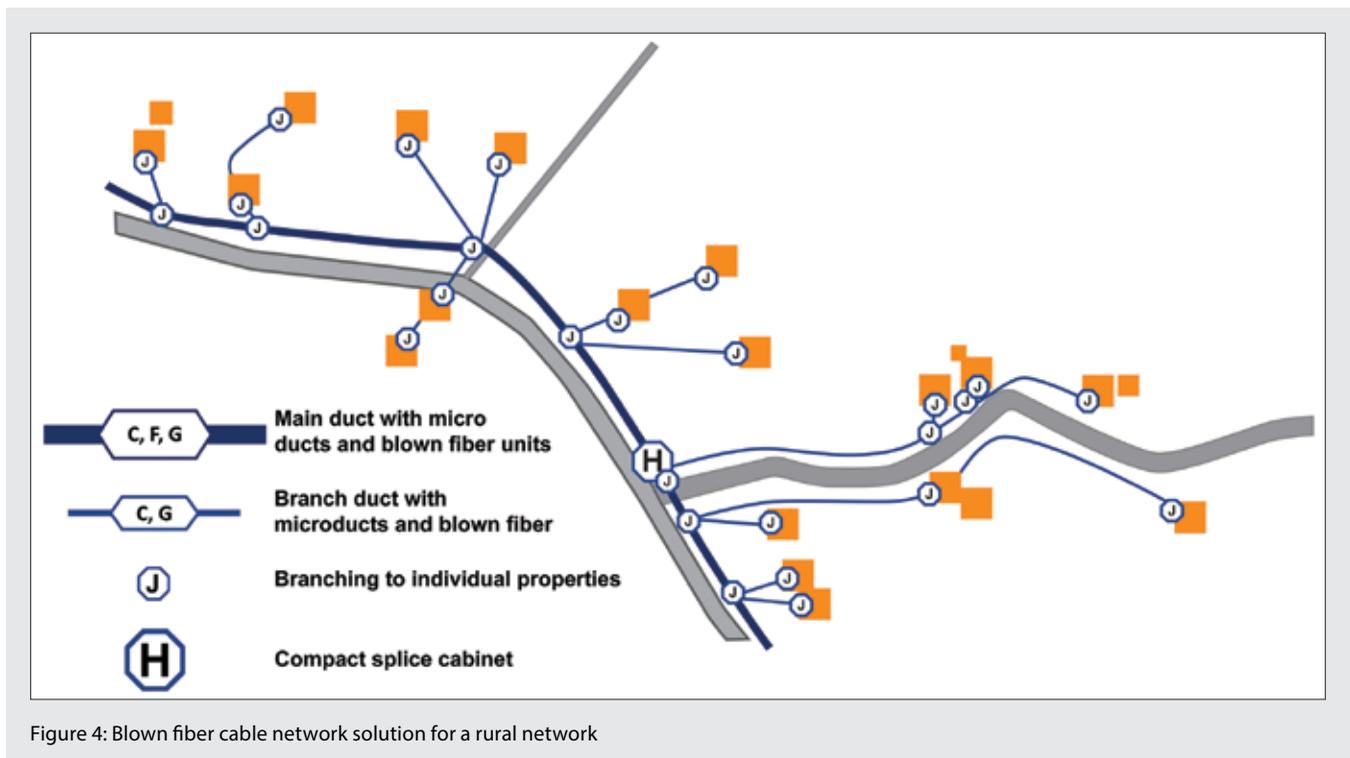

Figure 4: Blown fiber cable network solution for a rural network
The buildout of FTTH broadband networks and preparing for 5G deployments is driving an increase in fiber deployments in the United States. The example shown in Figure 4 depicts a possible blown fiber cable network solution for a rural network. The starting point is a main duct with microducts, where both microcables and blown fiber units are installed (C, F, G). This branching (J) is to individual properties with a branch duct (microducting and blown fiber C, G). Every duct is sealed. Only a few different components are required for assembly of the duct system and fiber splicing (if needed from feeder to splitters) because the entire area occurs at one single point in a compact splice cabinet (H).